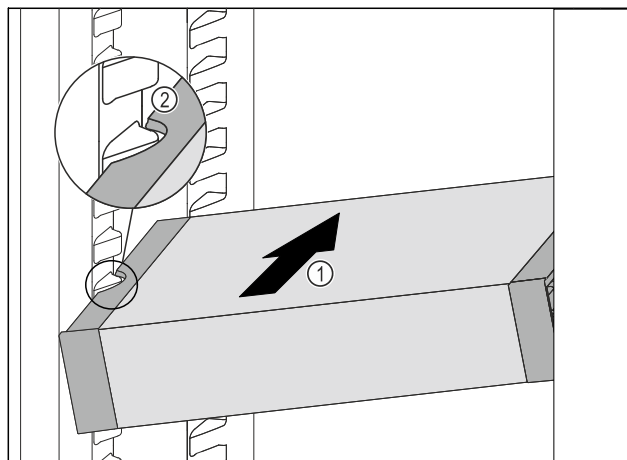

Fig. 78
- Insert the VarioSafe into the refrigerator compartment at an angle Fig. 78 (1) until the recesses in the side Fig. 78 (2) of the VarioSafe are at the level of the support rib in the refrigerator compartment.